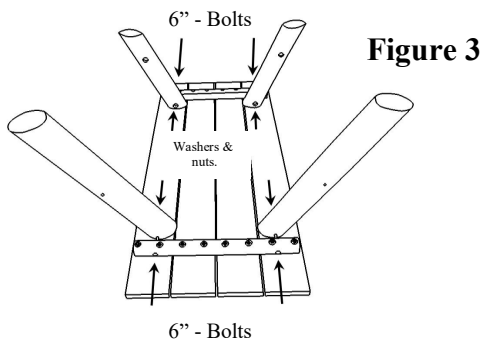

Figure 2
STEP 2 Position legs on the four corners, the side of the leg with the larger bore hole should be facing toward the center of the table (Note: each pair of legs are opposites). Install 4 of the 6" bolts through the table cleats into the legs as shown in **Figure 2 & 3**. Install the washers and nuts as shown in **Figure 3**. Do not tighten these down completely at this time. (Note: the table legs may not set flush to the table top, this is normal).